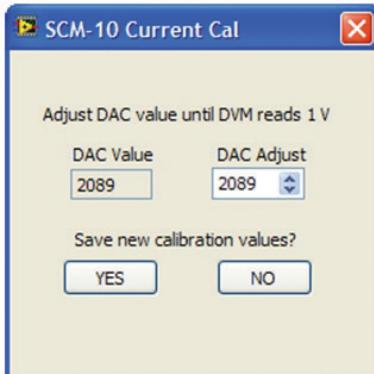

Figure 6.3
5. The next screen is similar to Figure 6.3 . Adjust the DAC value by clicking on the up or down keys on the screen, until the voltage reading on the DMM = $(\text{Value of the resistance standard}/100000) \text{ V} \pm 0.0001\text{V}$. Click on “Yes” to save these calibration values.
5. The next screen is similar to Figure 6.3. Adjust the DAC value by clicking on the up or down keys on the screen, until the voltage reading on the DMM = (Value of the resistance standard/1000) V $\pm 0.0001\text{V}$. Click on “Yes” to save these calibration values.